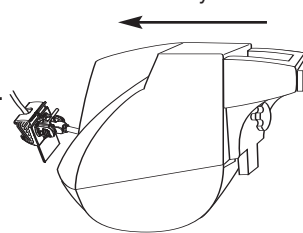

FIG. 6
8. Adjust the BrakeBuddy handle (Fig. 6). Loosen the adjustment knob on the back center portion of the BrakeBuddy and adjust the height of the handle so it contacts the seat at the lowest position possible without sliding under the seat. (NOTE: the lower on the seat, the firmer the support). Tighten the adjustment knob to secure handle.